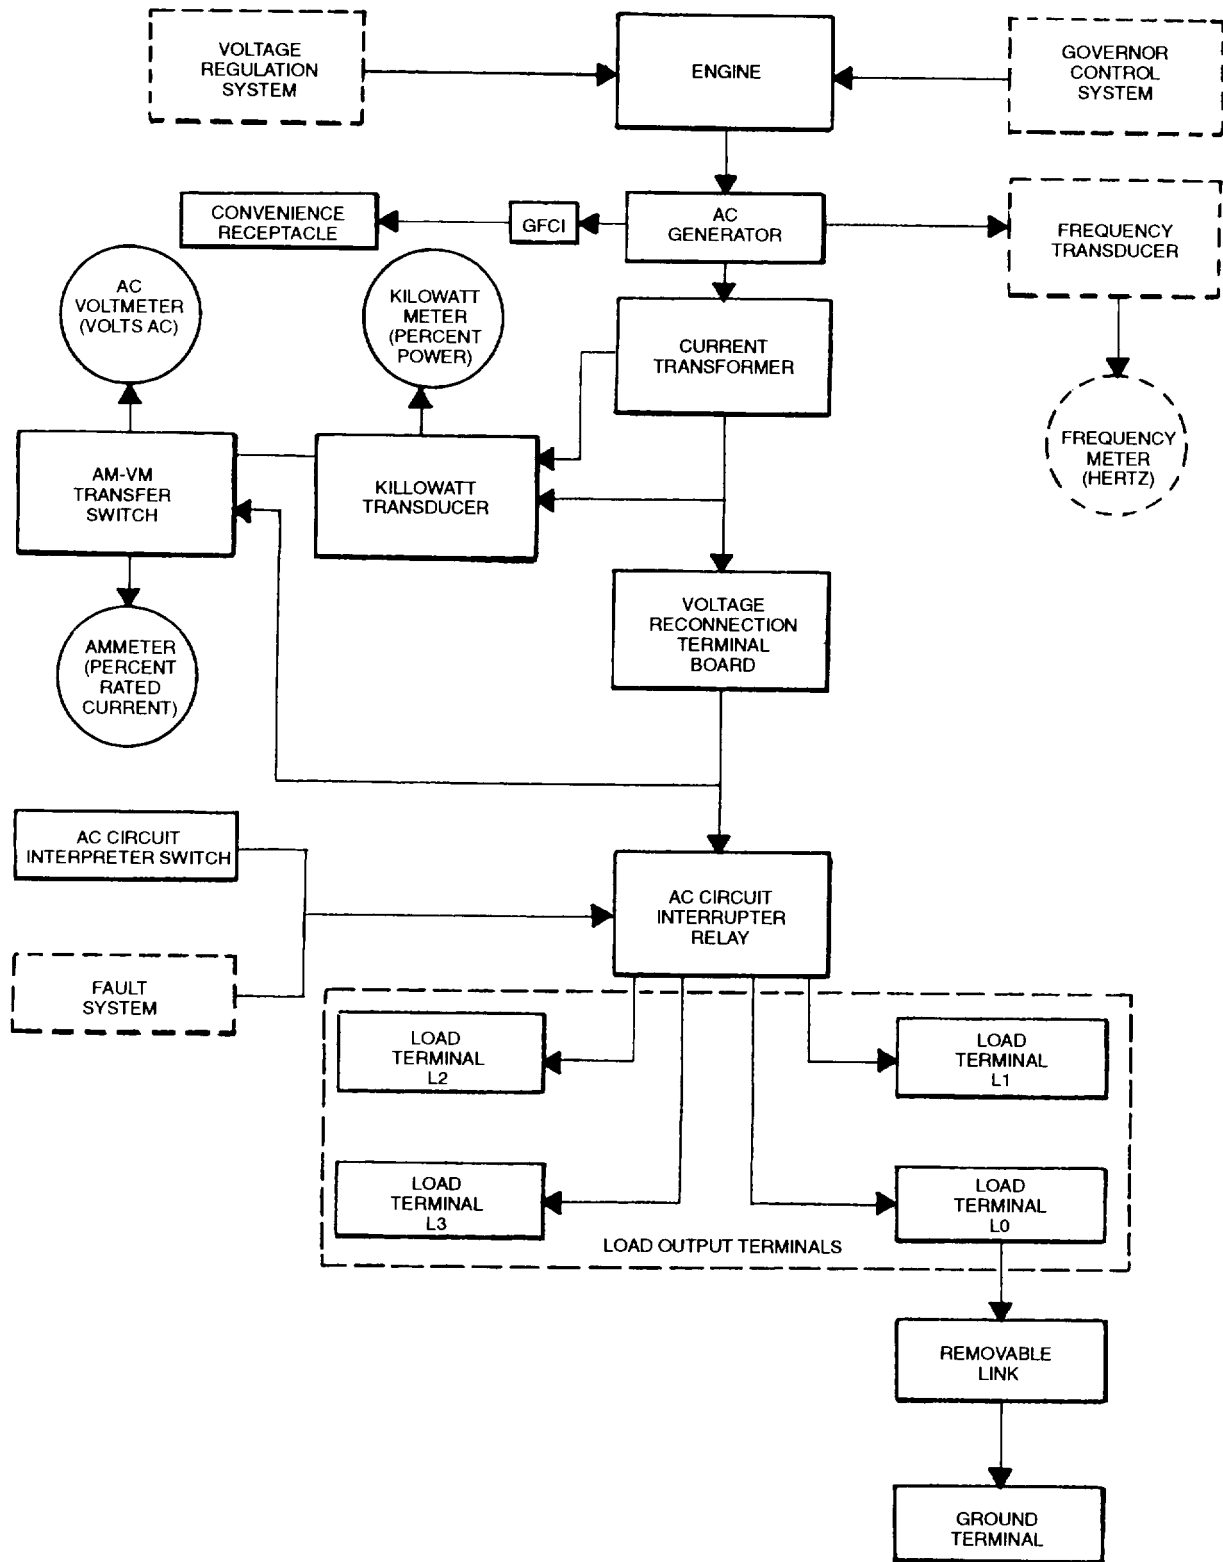

FIGURE 1-8. Output Supply System
1.12.7.1 The Output Supply System (FIGURE 1-8) consists of the AC generator, GROUND FAULT CIRCUIT INTERRUPTER (GFCI), CONVENIENCE RECEPTACLE, current transformer, AC circuit interrupter relay, output terminals, AC CIRCUIT INTERRUPTER switch, kilowatt transducer, kilowattmeter (PERCENT POWER), AM-VM transfer switch, AC voltmeter (VOLTS AC), and ammeter (PERCENT RATED POWER).